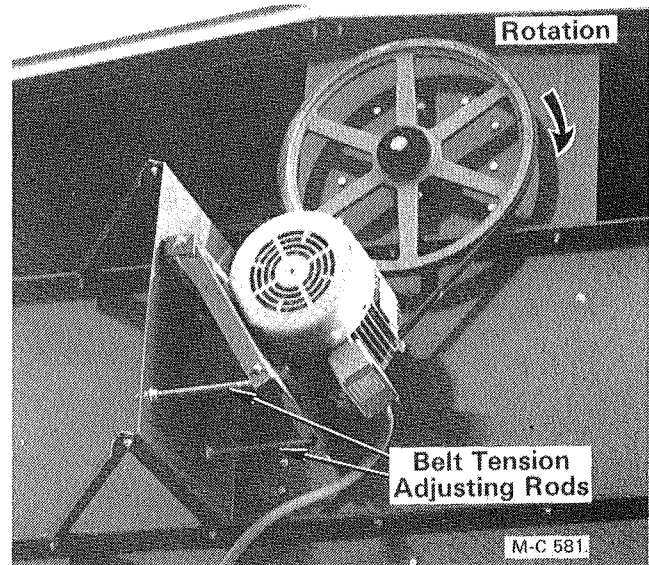

Figure 38
1. Loosen the locknuts on the adjusting rods. Shorten the adjusting rods evenly to increase belt tension, see Figure 38.